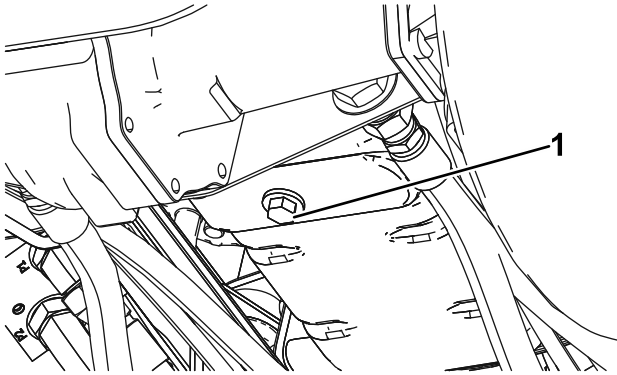

Figure 59
1. Remove the drain plug (Figure 59) and let the oil flow into a drain pan. When the oil stops, install the drain plug.